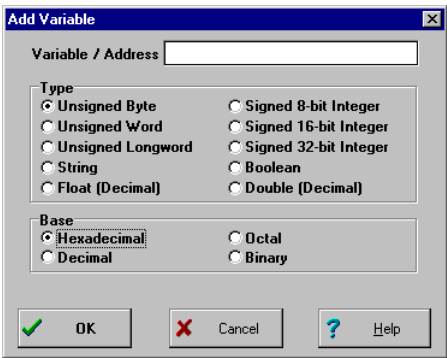

Figure 6-7. Add Variable Dialog
- **Add Variable:** Choose this option to open the *Add Variable* dialog (Figure 6-7) to add a variable or address to the current variable list. Select the variable type (size) and base.
specify the base in which variables are shown using the options in the *Add Variable* dialog (Figure 6-7). The default number format for the ICS05KJW is hexadecimal.